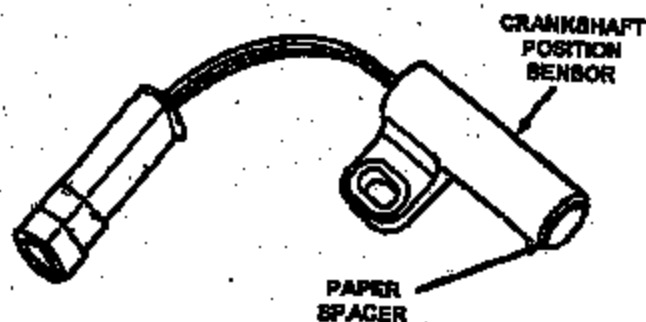

Figure 3
12. Verify that the paper spacer is on the end of the new crankshaft position sensor (Figure 3).